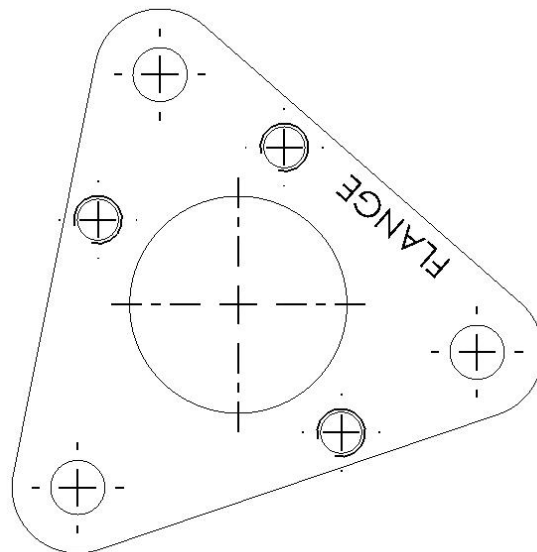

Figure 8 - Cut Out Template
- Cut out the perimeter of the wiper motor adapter template in Figure 8 on page 5. Locate the template on the mounting bracket so the large center hole lines up with the center hole in the bracket. Align two of the smaller holes that are close together on the template so they are 90° to the bottom edge of the mounting bracket (Figure 3).